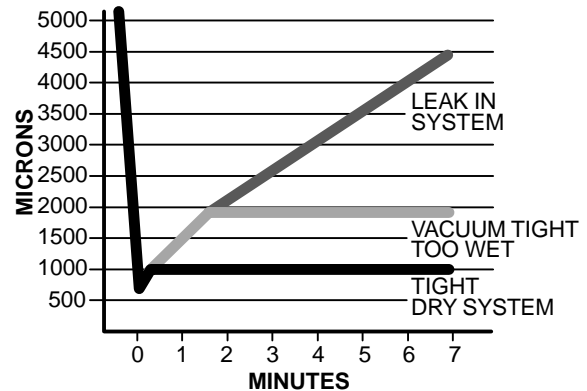

**Fig. 18 – Manifold**
- 3 Fully open the low side of manifold gage (see Fig. 18).